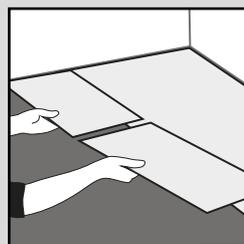

Fig. 4a
- 4a. Install the next plank by lifting the edge of the previous plank easing the tongue and groove together on the end joint, then slide in the long side which can then be tapped into position with an "off cut of material" or tapping block (Fig. 4a, 4b & 4c).